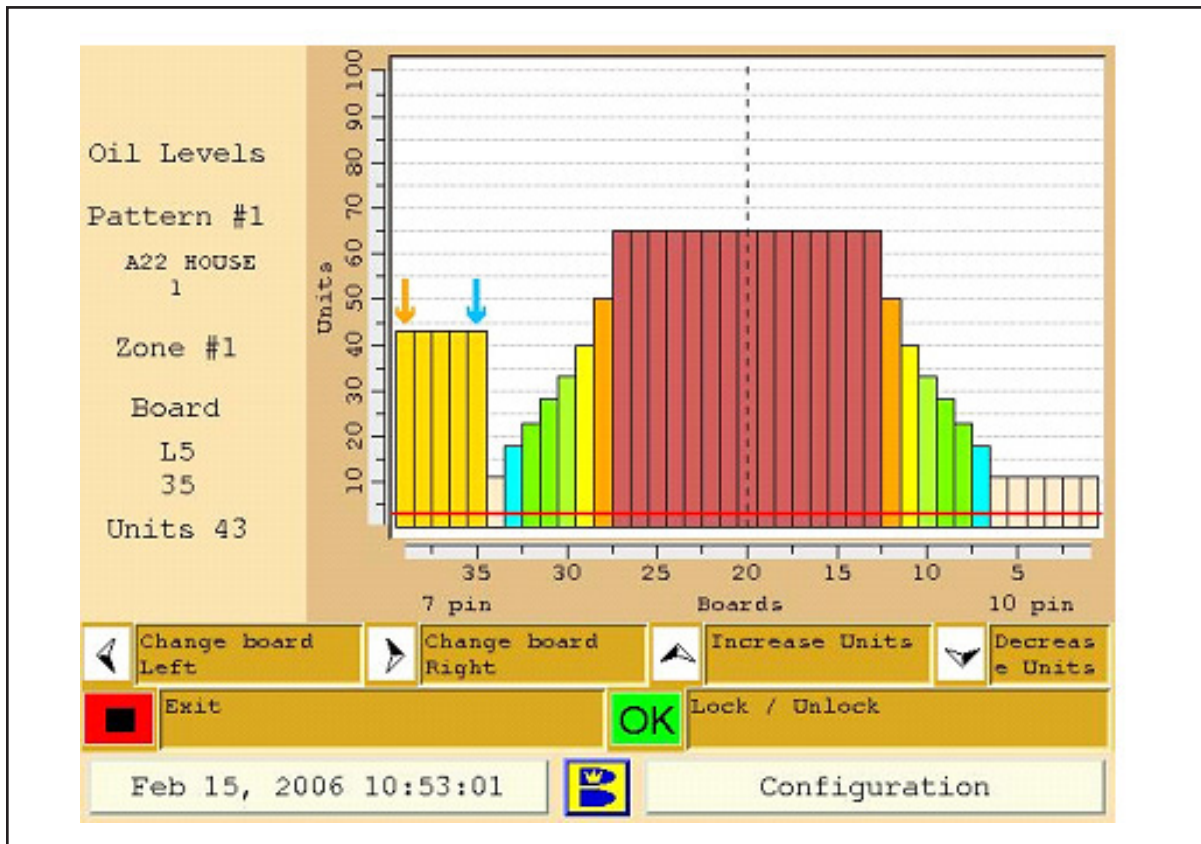

Figure 5-10. Oil Level
3. Use the left/right arrows to select the board you want to adjust (numbered 1-39 from the right of the screen or L2 (left 2 board) to R2 (right 2 board)). Refer to Figure 5-10.